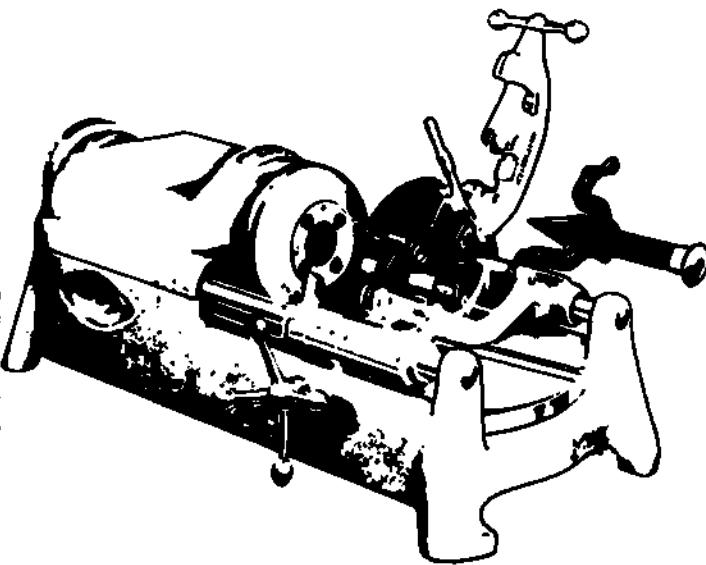

Figure 1-55. Power Threading Machine
- b) These machines come in various sizes and are portable and non-portable. One type is shown in Figure 1-55.